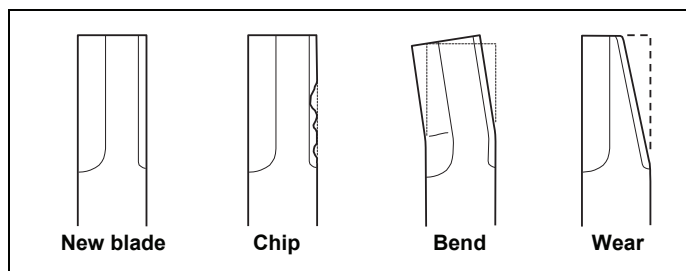

Fig. 5-3
2. Confirm that the blade is not chipped, bent or worn. Fig. 5-3